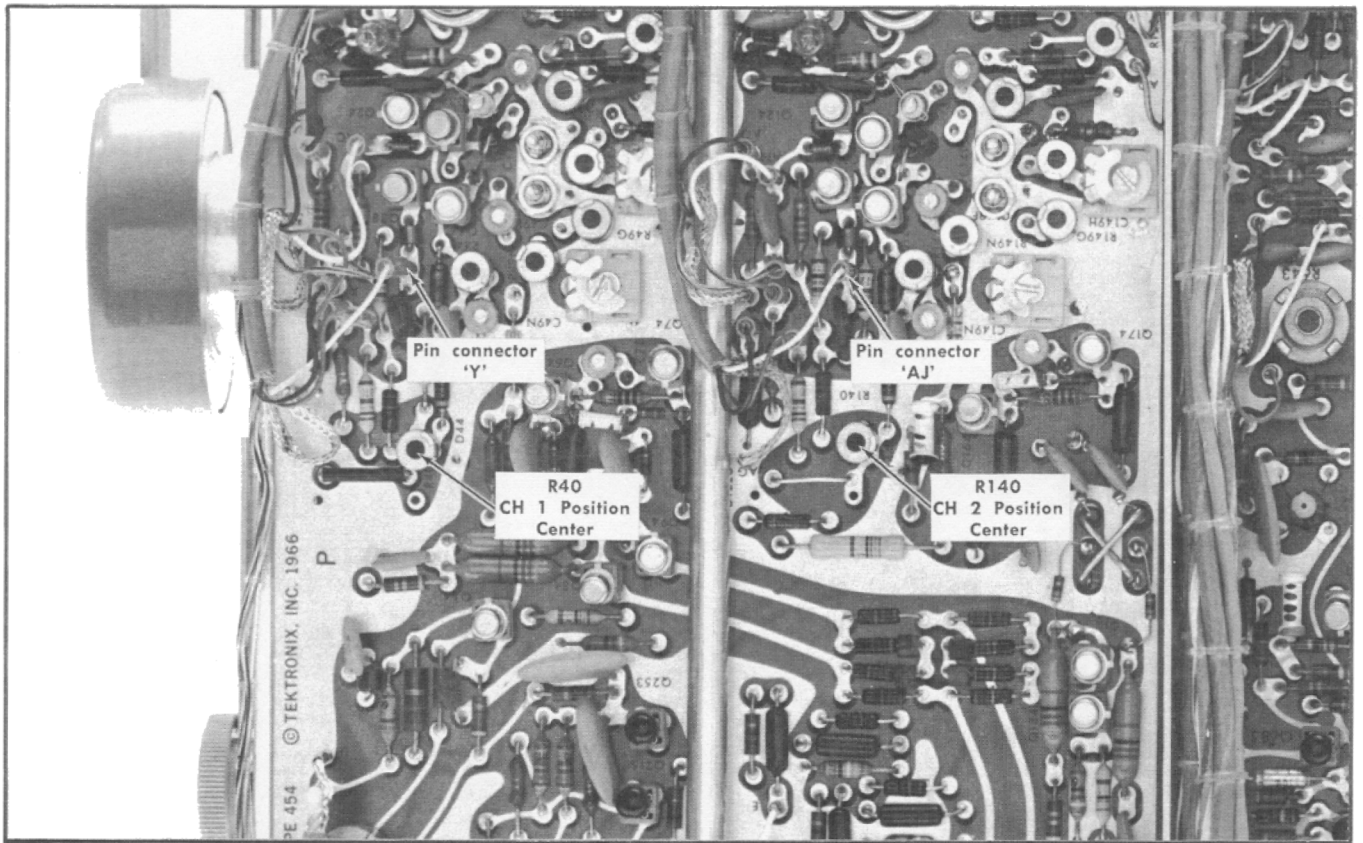

Fig. 6-17. Location of Channel 1 and 2 Position Center adjustments and test points (Vertical Preamp circuit board).
- a. Connect the precision DC voltmeter between pin connector 'Y' on the Vertical Preamp circuit board (see Fig. 6-17) and ground.
- e. ADJUST—CH 1 Position Center adjustment, R40 (see Fig. 6-17), to position the trace to the center horizontal line.
- g. Connect the precision DC voltmeter between pin connector 'AJ' on the Vertical Preamp circuit board and ground (see Fig. 6-17).
- j. ADJUST—CH 2 Position Center adjustment, R140 (see Fig. 6-17), to position the trace to the center horizontal line.